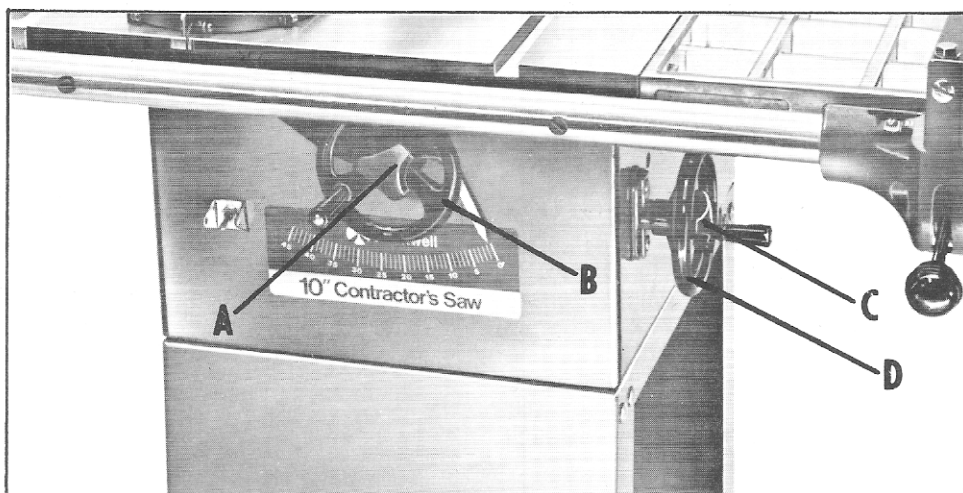

Fig. 27
To raise or lower the saw blade, loosen lock knob (A) Fig. 27, and turn raising handwheel (B). With the exception of hollow ground blades, the blade should be raised 1/8" to 1/4" above the top surface of the material being cut. With hollow ground blades the blade should be raised to the maximum to provide chip clearance.
To tilt the saw blade, loosen lock knob (C) Fig. 27, and turn tilting handwheel (D). When desired angle is obtained, tighten lock knob (C).